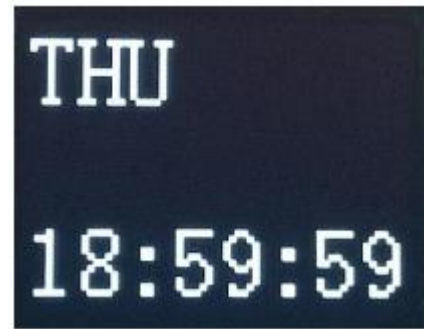

fig 1-2
**Note:** In any operating mode, the display will change to the current time every 3 seconds. ( fig 1-2)